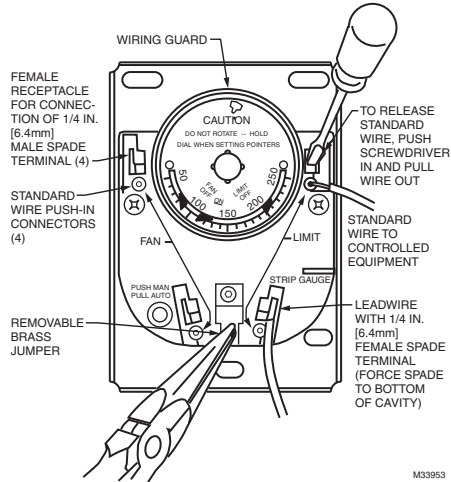

Fig. 5. Location of Wiring Connections.
Disconnect power supply before beginning installation to prevent electrical shock or equipment damage. All wiring must comply with local electrical codes and ordinances or in the absence of local codes with the National Electrical Code ANSI C1-1981 -NFPA 70. Follow burner or furnace manufacturer's instructions if available; otherwise, see Fig. 5 and proceed as follows.
*The brass jumper is the breakaway type. It must be removed when the limit is used in the low voltage circuit. To remove jumper, break with a needlenose pliers and remove completely. Once removed, it is not replaceable. See Fig. 5 for location.*
When connecting cable or conduit to this controller, use care to avoid strain on the control case. Connections can be made to standard wire push-in terminals or female receptacles for 1/4 in. (6.4 mm) male flag connectors on both the fan and limit switches (Fig. 5).
screwdriver in and hold while inserting wire into terminal (Fig. 5). Remove screwdriver. If stranded wire is solder-dipped, it can be pushed directly into terminal holes.
3. Push male flag connector directly into the female receptacle. Make sure that the flag is forced to the bottom of cavity and wire is in the channel (Fig. 5).